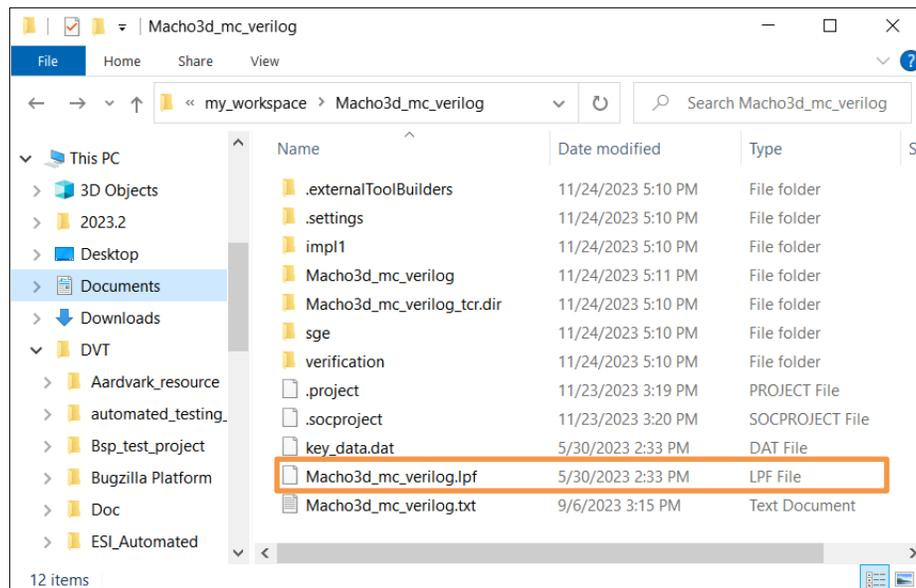

Figure 5.14. Constraint File in Source Project
- d. For board level SoC project, copy the Diamond constraint .lpf file from the source project (Figure 5.14). The path is <workspace>/<project_dir>/<project_name>.lpf.